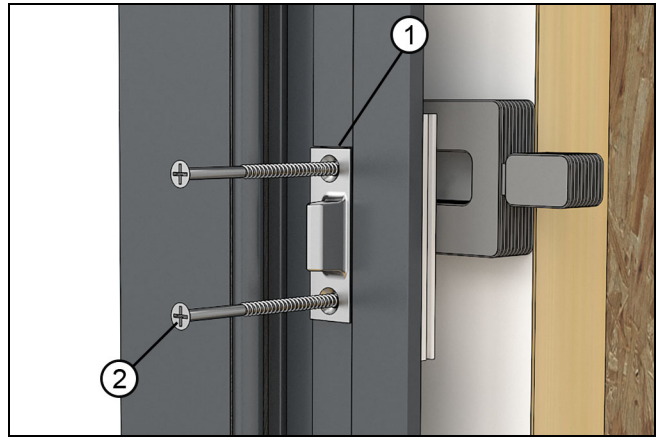

Figure 209
24. Fasten strikes, panel alignment bolts, hinges, and stationary brackets to the rough opening. Shim at all fastener locations between the frame and the rough opening. See Figure 207, Figure 208 and Figure 209.